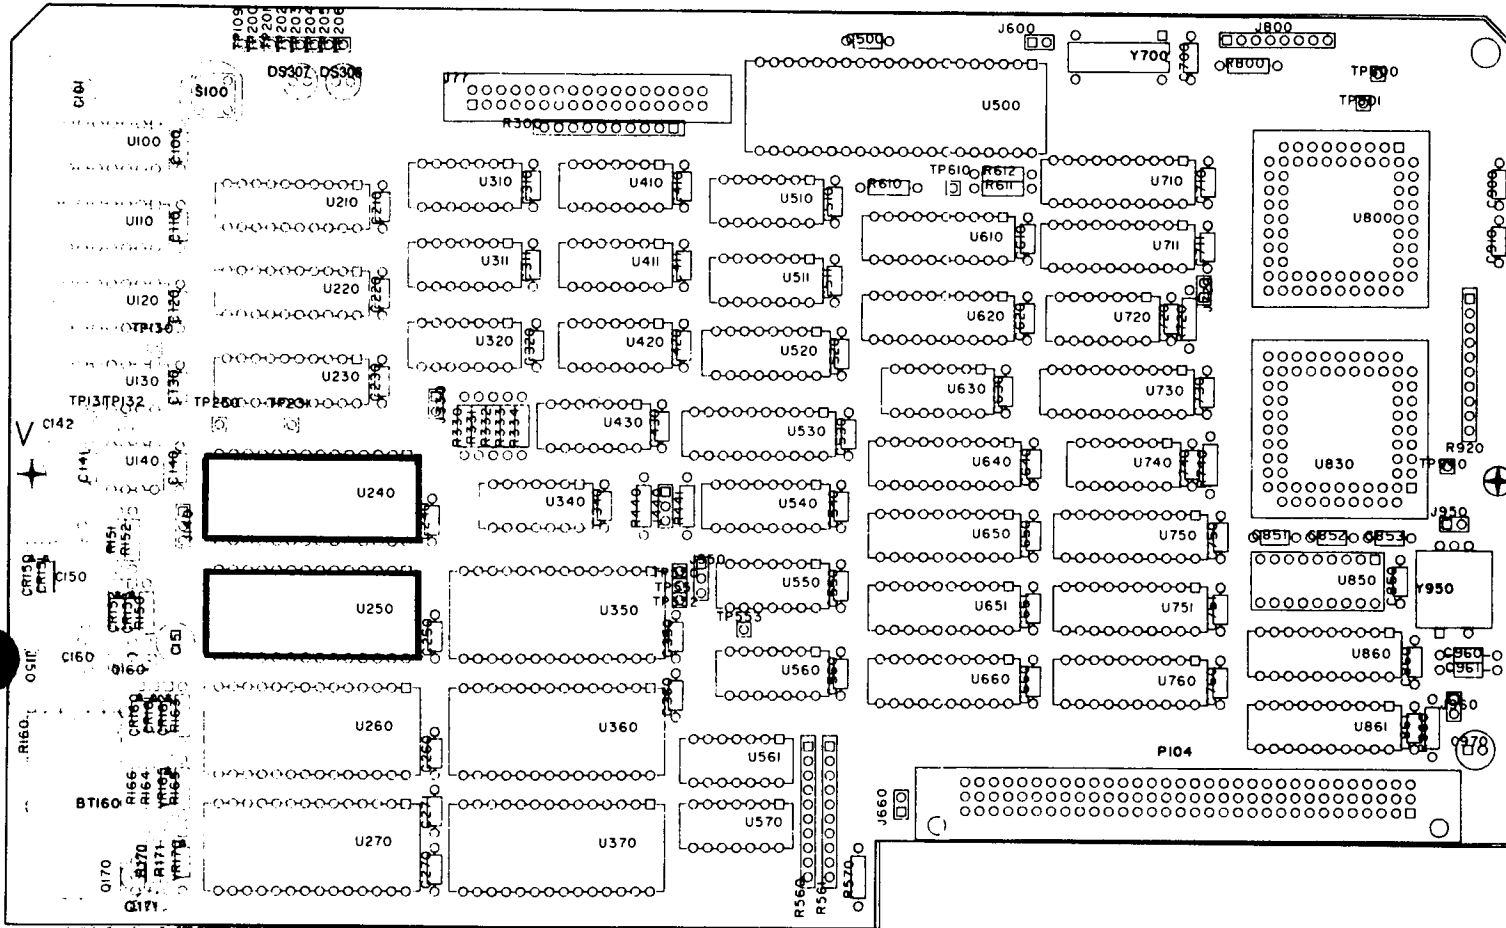

Figure 3 - Main Processor Circuit Board A17.
- ( ) 7. Replace U240 and U250, microcircuits with the new microcircuits provided in this kit, U240, pn 160-3748-XX, and U250, pn 160-3749-XX. (refer to Figure 3 for component locations).